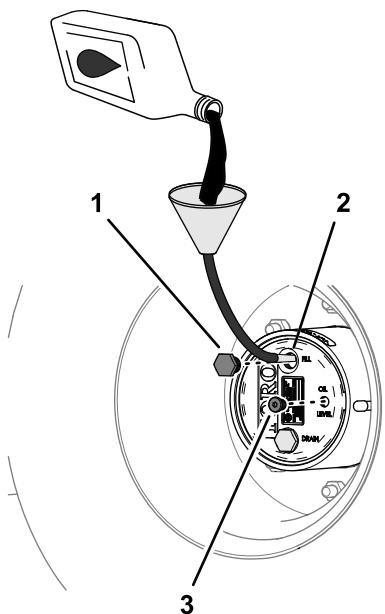

Figure 88
4. If the lubricant level is low, remove the fill plug and add the specified lubricant until it begins to flow out of the check-plug hole (Figure 88); refer to Planetary-Gear-Drive Lubricant Specification (page 66).
6. Install the fill plug and the check plug (Figure 88).
1. Through the fill-plug hole, slowly add the specified gear lubricant; refer to Figure 88 in Checking the Planetary-Gear-Drive Lubricant \(page 66\).
3. Install the fill plug and check plug; refer to Figure 88 in Checking the Planetary-Gear-Drive Lubricant \(page 66\).